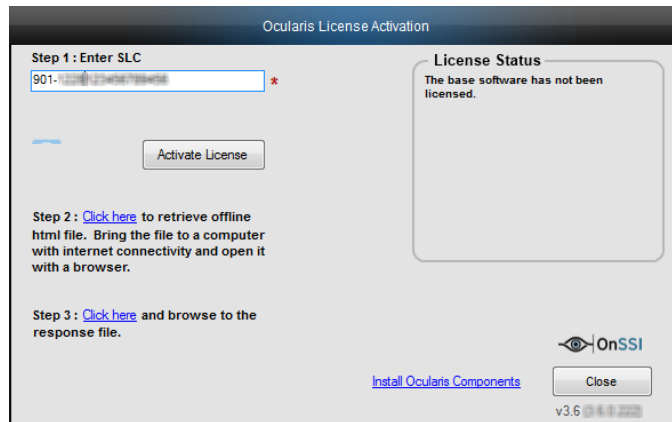

Figure 11 Additional Steps for Offline Licensing
- On the Ocularis License Activation screen (see Figure 11), click the link in *Step 3: Click here and browse to the response file.*